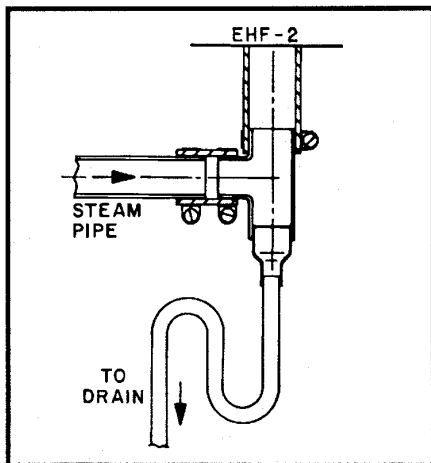

Figure 3-3
7. **If steam piping cannot slope up** to the fan unit make a drain fitting from a 1-1/4" inch tee, a reducer fitting, and copper tube as shown. Install this directly under the fan unit. (See Figure 3-3)